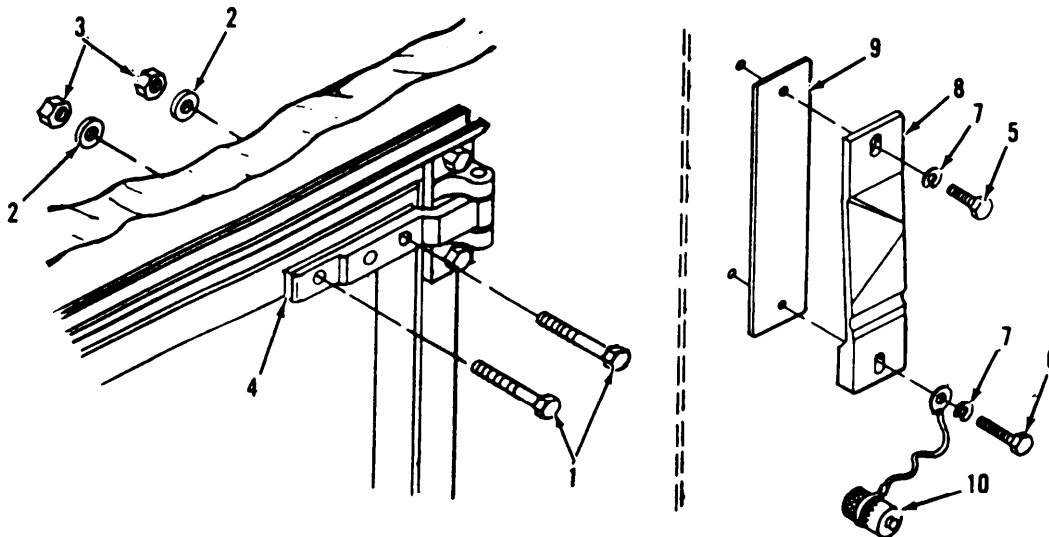

Figure 3-18. Weather Gasket and Seal Pressure Adjustment.
- (3) Withdraw the paper. Resistance to the withdrawal of the paper indicates proper seal pressure. If there is no resistance, perform the adjustment procedure contained in the following paragraphs.
- (4) If there is resistance to the withdrawal at all of the test points, sufficient seal pressure exists on the silicone weather gasket, and adjustments are not necessary.
c. Adjust. (Figure 3-18) Adjustment to increase the seal pressure on the silicone weather gasket can be made on the hinged side of the door and on the roller latch side of the door, as described in the following paragraphs:
- (1) Weather Gasket Pressure Adjustment (Hinge Side). To increase the weather gasket pressure on the hinged side of the door, proceed as follows:
- (a) Open the door and remove and retain three bolts (1), flat washers (2), and self-locking nuts (3) attaching the hinge to the door.
- (b) Insert shim (4), approximately 0.032 inches thick and matching the hinge body in size, between the hinge body and the door.
- (c) Secure the hinge body to the door using three bolts (1), flat washers (2), and self-locking nuts (3).
- (2) Weather Gasket Pressure Adjustment (Latch Side). To increase the weather gasket pressure on the roller latch side of the door, proceed as follows:
- (a) Open the door and remove and retain the hex head screws (5 and 6) and lock washers (7) from the top and bottom hole attaching the keeper (8) to the wall, and remove keeper and shim (9). Remove detent pin (10) from center keeper.